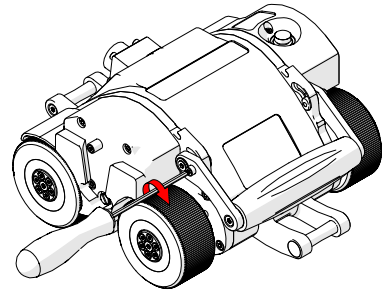

Fig. 44 - Tighten lock screws
3. Tighten the handle lock screws when complete (*Fig. 44*).